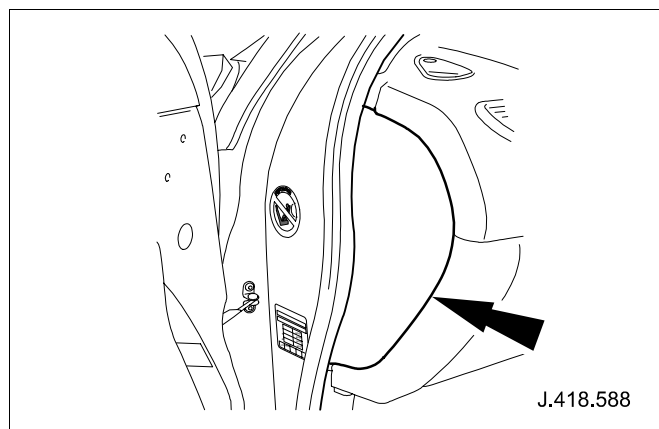

Fig. 4
- 3 Remove facia left hand end cover. (See Fig. 4)